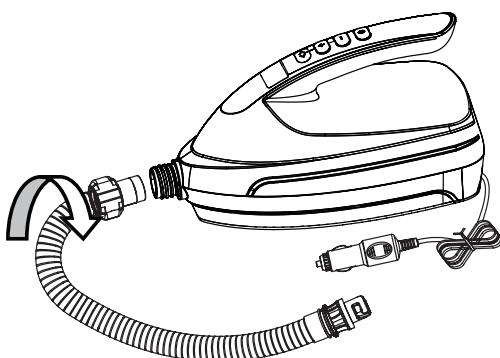

Fig. 1
- Connect the end of the hose with the flexible conduit adapter to the air pump inflation inlet (13), and twist clockwise to tighten it, as in Figure 1.